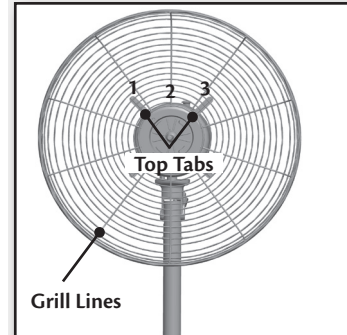

Figure 12
2. Make sure that the rear grill is positioned so that three of the grill lines are completely between the top tabs, Figure 12. Then place the rear grill against the motor housing, and line up the four tabs on the back of the grill to the four screw holes on the front of the motor.